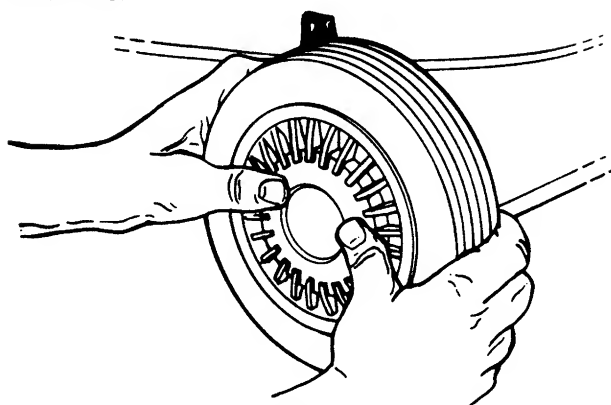

FIGURE 9.—Optional Hub Caps
2. If your mower is equipped with 2" wide tires, place hub caps in position against the inner hub of the wheel. Press firmly around the center portion of hub cap in a circular motion, similar to installing a lid on a round, plastic container. See figure 9. The hub caps are flexible and will snap over the 3-1/2" diameter wheel hubs.